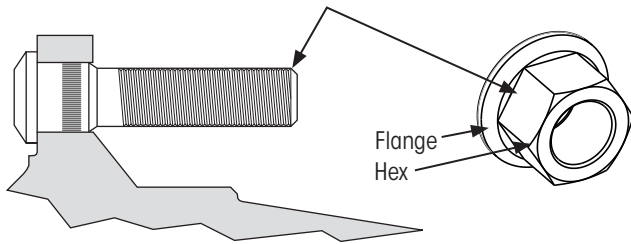

Figure 20: Lubricating stud and two-piece flange nut
- C. **Apply** two drops at the point between the flange and hex of the nut (Figure 20).